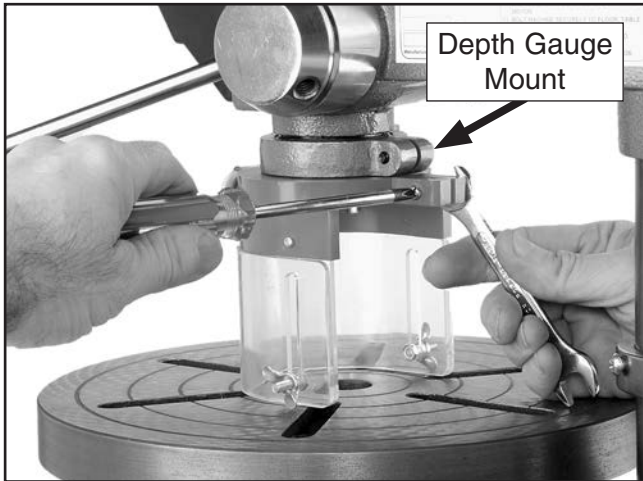

Figure 23. Installing chuck guard assembly.
- To install chuck guard, place chuck guard over flange of depth gauge mount, as shown in **Figure 23**, then tighten Phillips head screw and hex nut to secure it.